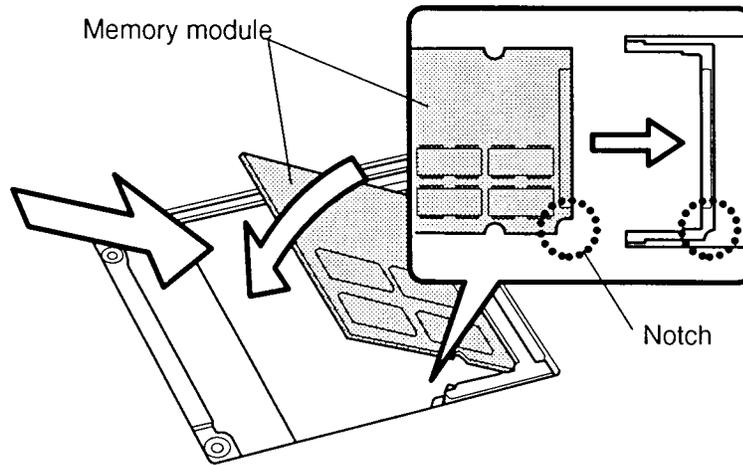

Figure 4-6 Inserting the memory module
To install an optional memory module in the T2150 series, follow the steps below and refer to figure 4-6.
1. Insert the **memory module**, connectors first, into the computer's connectors. Note the notch at the corner of the module. This notch should be on the right as you insert the module (figure 4-6).